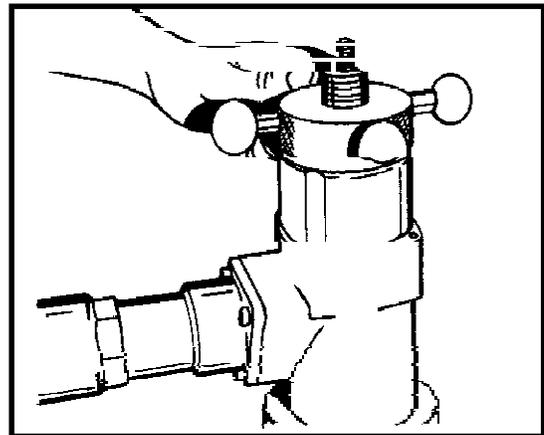

Figure 3
4. Once the keys of the internal feed nut engage the mandrel, rotate the feed handle assembly clockwise until the mandrel shaft is approximately 3/4" (19 mm) beyond the end cap (Figure 3).